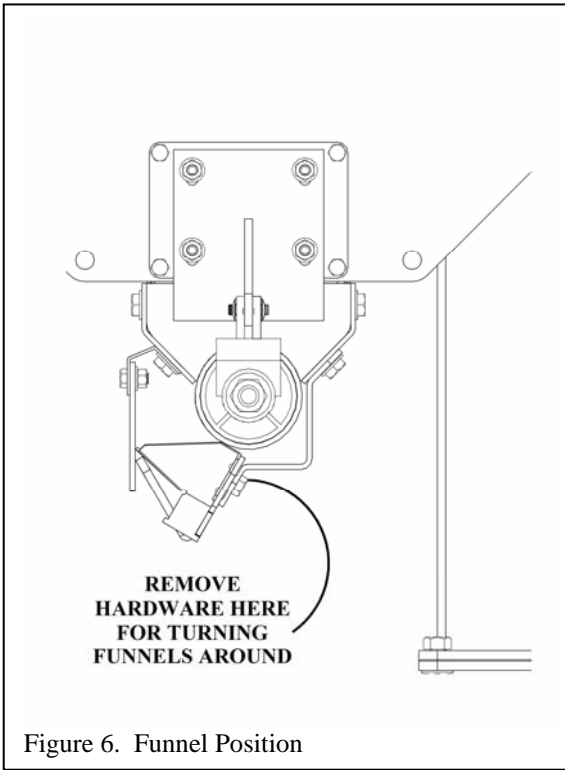

Figure 6. Funnel Position
- Remove the seed funnels from the hopper and refasten them facing the rear of the seeder as shown in Figure 6.